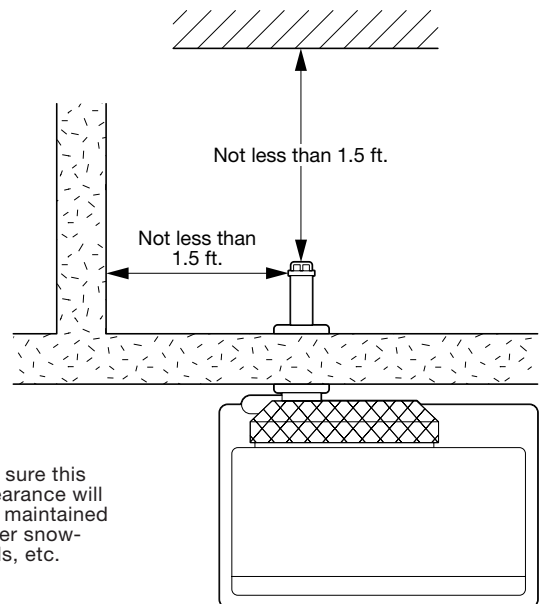

Fig. 3
When using the "Extension pipe (S)" extension kit, the distance between the heater exhaust pipe connection and the flue pipe connection must be at least 15-³/₄ inch but no more than 22-³/₄ inch. (See Figure 3 for reference.)